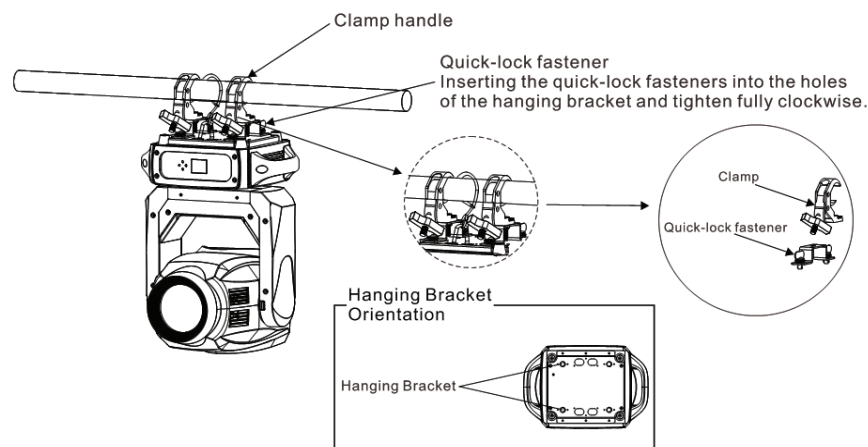

FIGURE 3. INSTALLING BRACKETS ON LUMINAIRE ENCLOSURE
Step 1. Bolt each clamp to the Omega holder with screw and lock nut through the hole in the holder as shown in **FIGURE 3**.